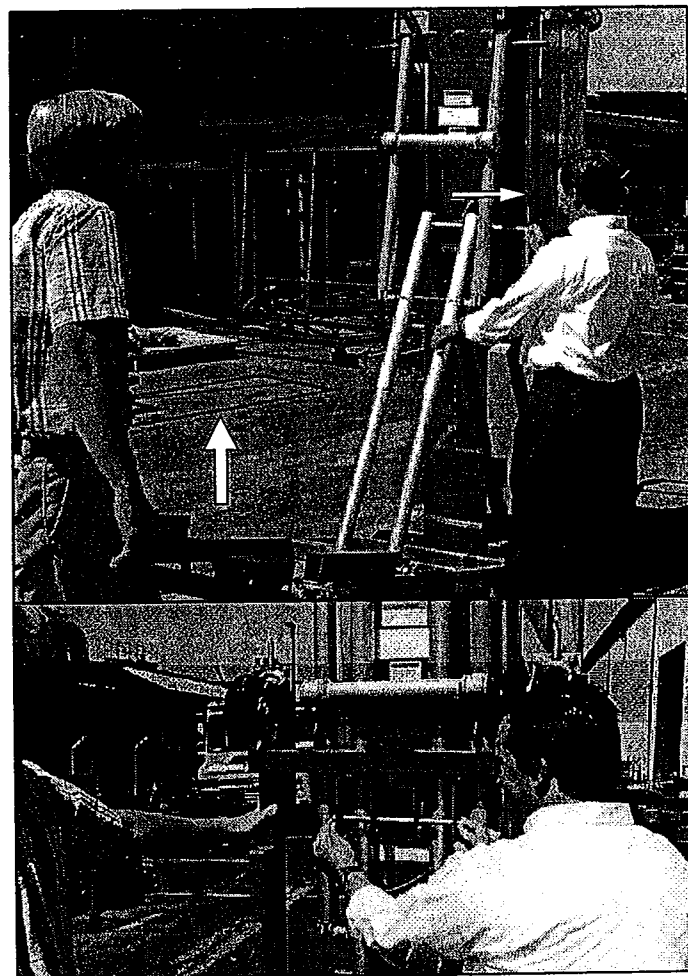

Figure 3-19: Stowing the Tilt Back Frame
6. While another person supports the Tilt Back Frame, release the hair - pin retainer and pull out the retaining pin. Raise the Tilt Back Frame to its stowed position and replace the retaining pin and hair - pin retainer (fig. 3-19). Check to make sure that the Tilt Back Frame and gas spring assembly are securely locked in place.